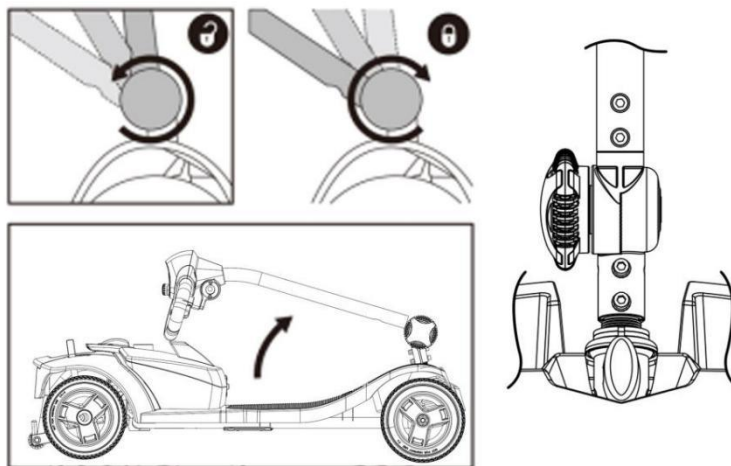

Figure 10.1
2. Rotate the folding knob anticlockwise to release the tiller (Figure 10.1).
4. Rotate the folding knob clockwise to lock the tiller (Figure 10.1).